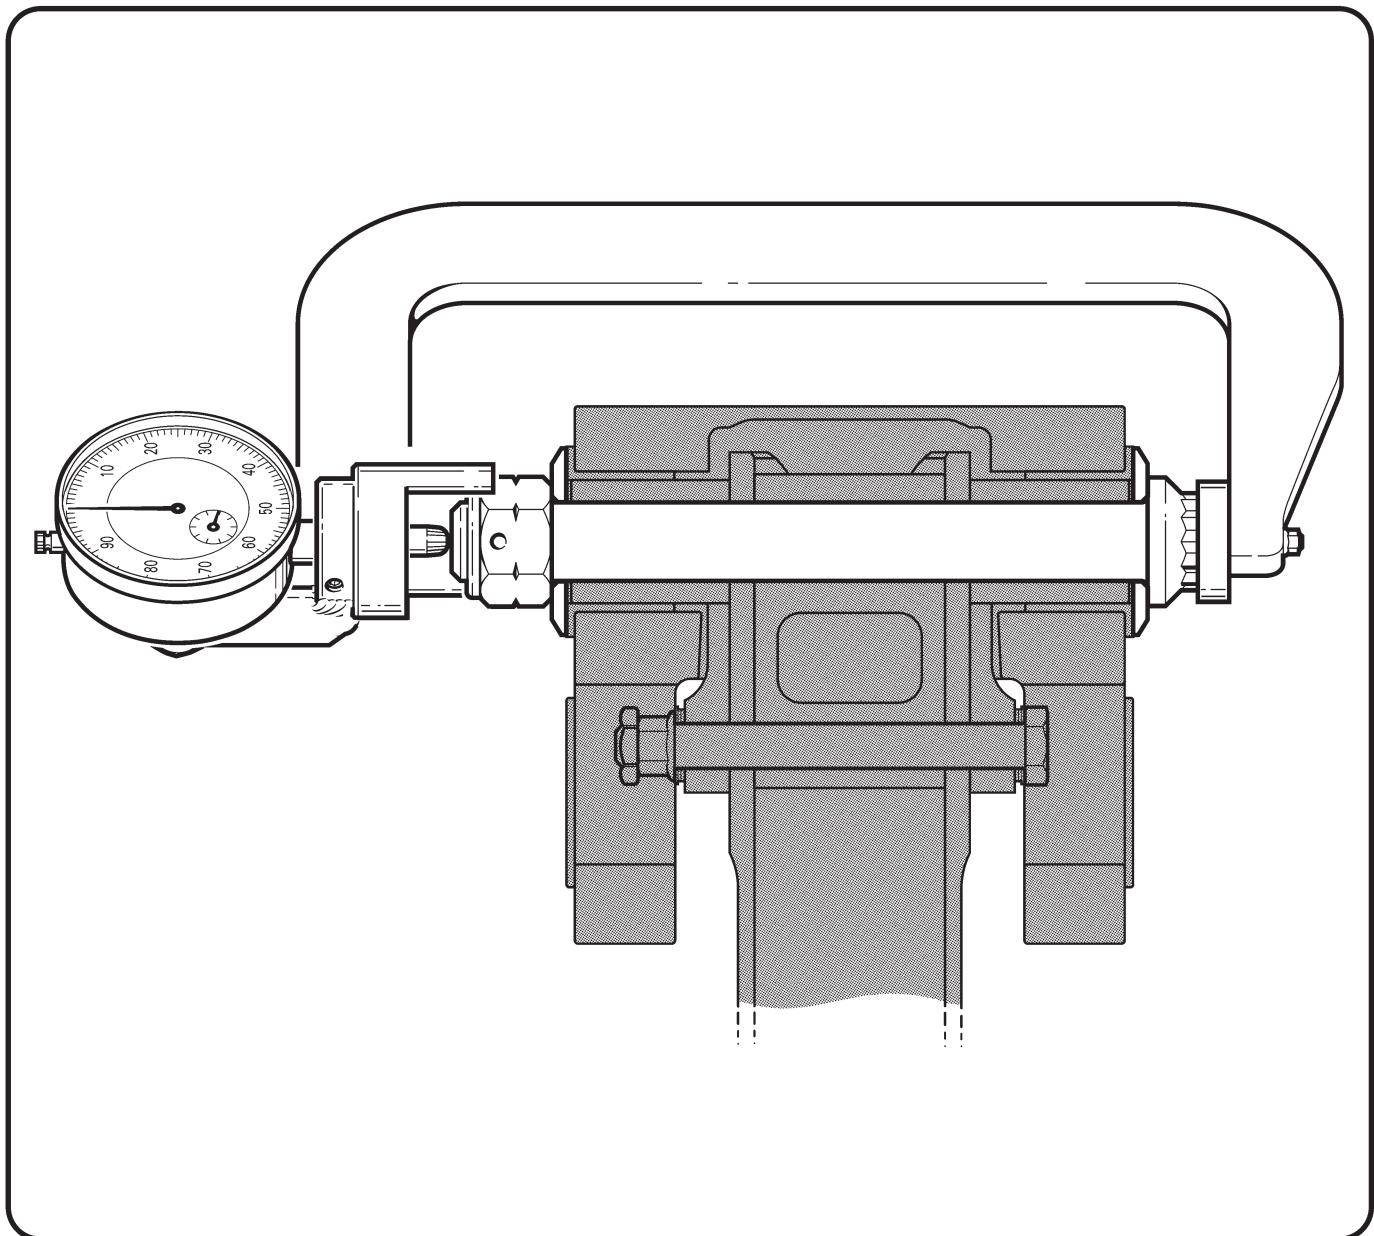

FIGURE 26-2 MEASURING BOLT STRETCH (SHOWN ON TEEETER BOLT, BLADES REMOVED)
9. Refer to Figure 26-2. Install MT122 main rotor bolt elongation (stretch) tool on hinge bolt. Zero dial indicator by rotating dial face and lock dial. Remove tool.
5. Refer to Figure 26-2. Install MT122 main rotor bolt elongation (stretch) tool on teeter bolt. Zero dial indicator by rotating dial face and lock dial. Remove tool.